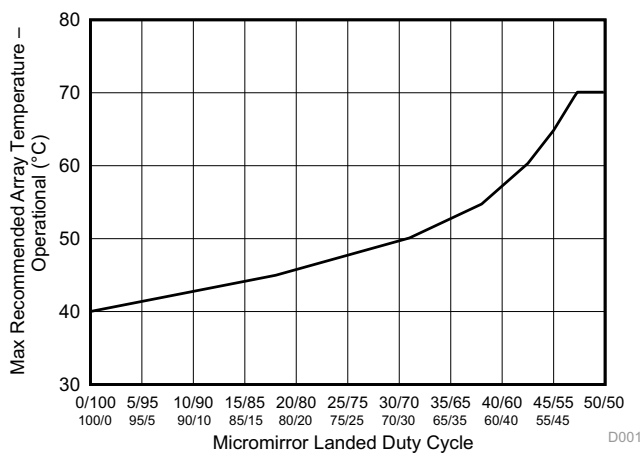

Figure 1. Maximum Recommended Array Temperature – Derating Curve
- (12) Per Figure 1, the maximum operational array temperature should be derated based on the micromirror landed duty cycle that the DMD experiences in the end application. Refer to Micromirror Landed-On/Landed-Off Duty Cycle for a definition of micromirror landed duty cycle.
- (13) Long-term is defined as the usable life of the device.
- (14) Short-term is the total cumulative time over the useful life of the device.
- (15) The maximum marginal ray angle of the incoming illumination light at any point in the micromirror array, including at the pond of micromirrors (POM), should not exceed 55 degrees from the normal to the device array plane. The device window aperture has not necessarily been designed to allow incoming light at higher maximum angles to pass to the micromirrors, and the device performance has not been tested nor qualified at angles exceeding this. Illumination light exceeding this angle outside the micromirror array (including POM) will contribute to thermal limitations described in this document and may negatively affect lifetime.